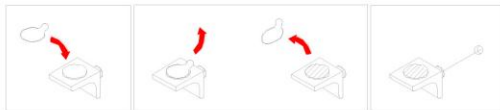

FIG 21
3. Place shelf clip stick tab on each clear shelf clip (Fig 21), then peel off tab so only sticker remains on clip.